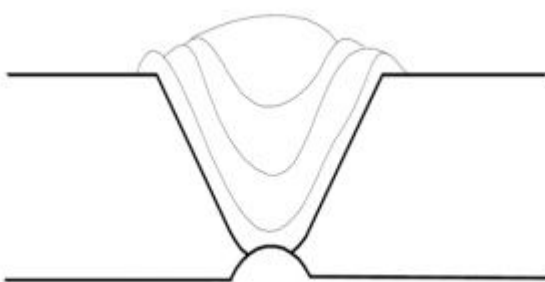

Fig. 3. - Channel on material bottom side
- 12 Mill with low revolutions per minute (approx. 3000 min⁻¹) and low pressure a channel into material bottom side using a small multifunction rotary tool (Fig. 3).